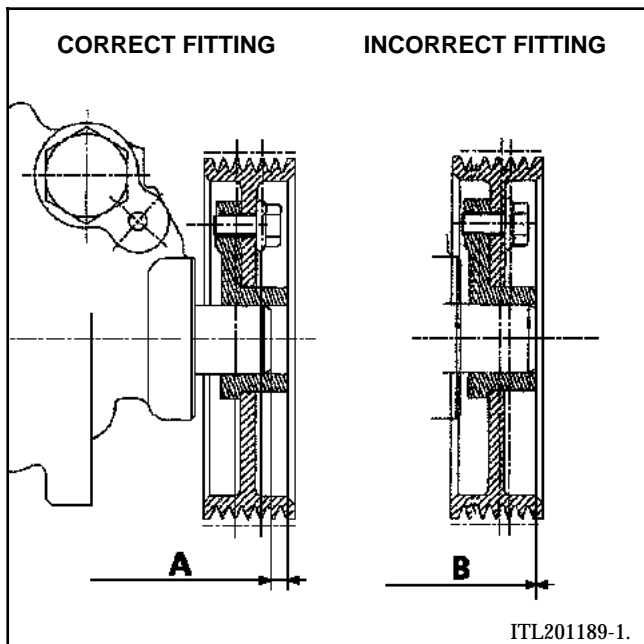

Fig. 3
- Fit a spacer between the hub and the PAS pulley (alignment to be checked **before** work is carried out). **(Figure 3)**